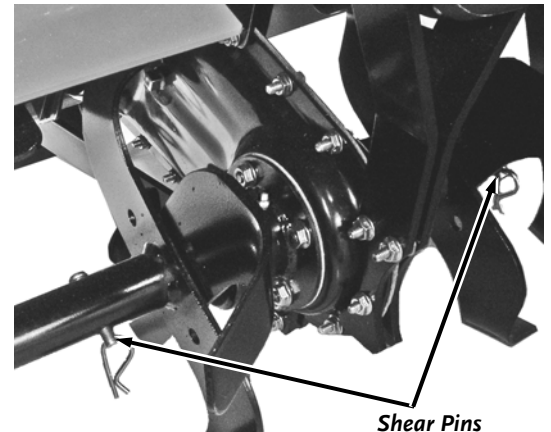

Figure 21
- The DR ROTO-HOG Power Tiller drive components are protected from damage by Grade 5 Shear Pins in the Tine Assemblies (**Figure 21**). The Shear Pins hold the Tine Assemblies in proper location on the Drive Axles. Should a Tine Assembly strike or pick up a large hidden object and jam, the Shear Pin holding the Tine Assembly to the drive shaft will shear or break, protecting the drive components of the DR ROTO-HOG Power Tiller from major damage.
- Two (2) extra sets of Tine Shear Pins are included with the DR ROTO-HOG Power Tiller.